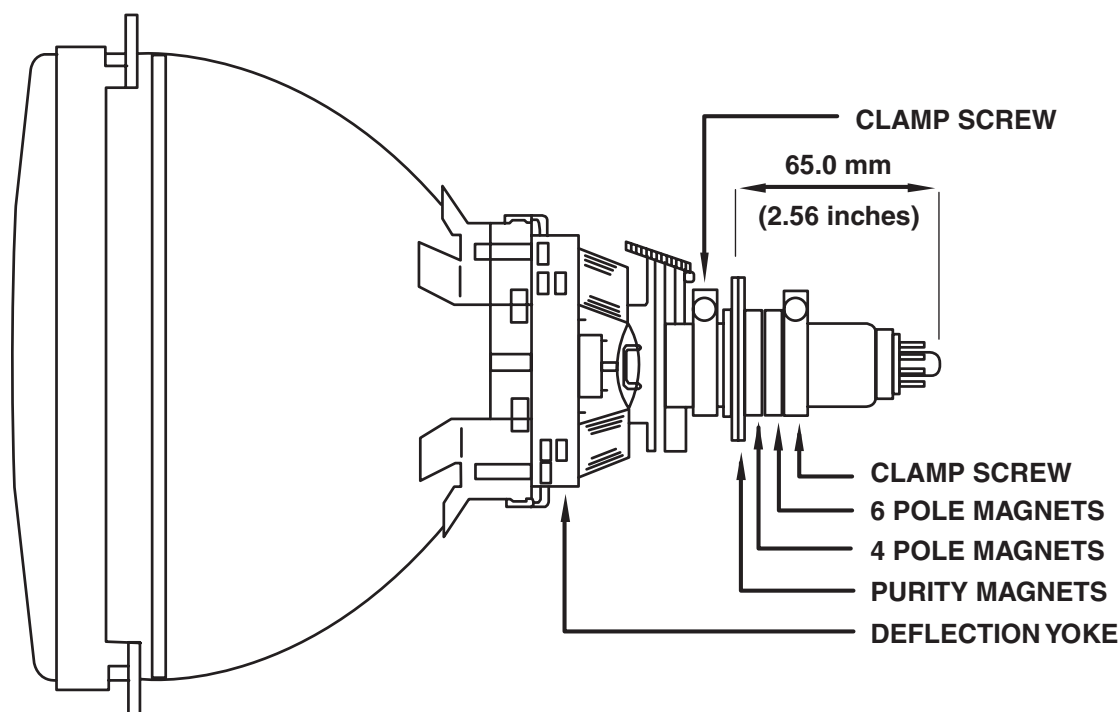

Fig. 3
1. Check correct location of all neck components. (Refer to Fig. 3)
## STATIC CONVERGENCE ADJUSTMENT ( Refer to Figure 3 and 4 )
IMPORTANT: Before proceeding, make sure the location of the convergence magnet assembly on the neck of the CRT is as shown in Figure 3. The rear edge of this assembly must be positioned 65 mm from the tip of the CRT base. If not properly positioned, convergence adjustment may be difficult, if not impossible.